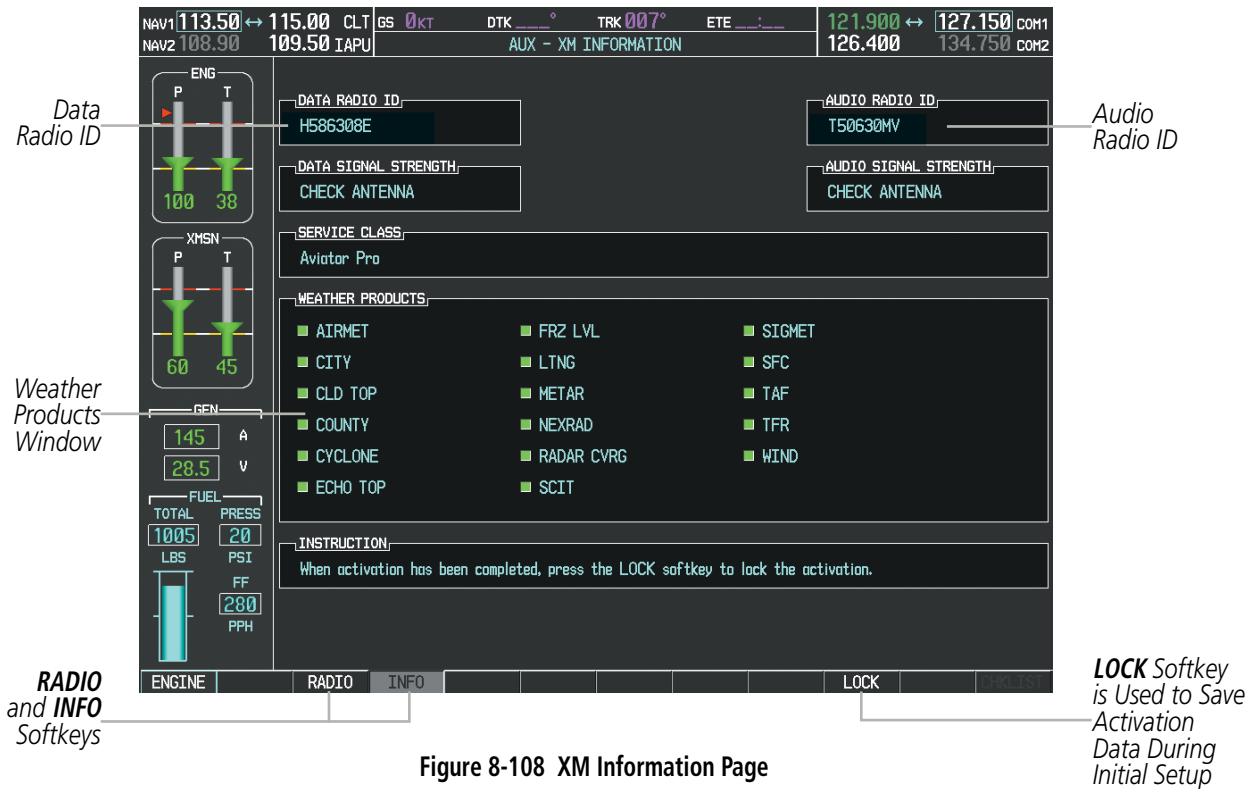

Figure 8-108 XM Information Page
- On the XM Information Page on the MFD (Figure 8-108)